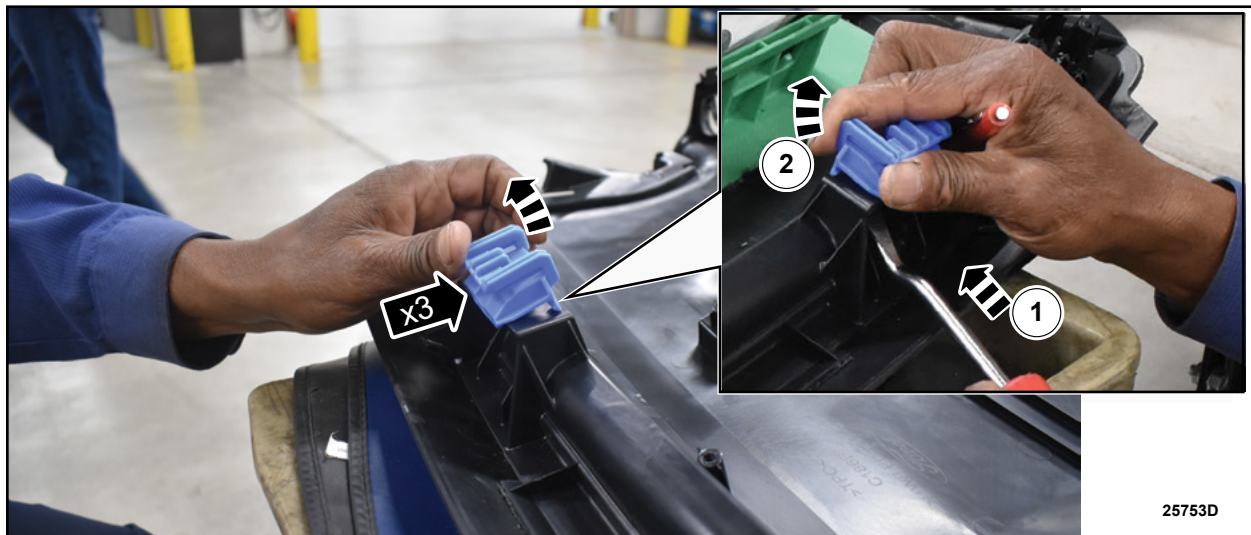

FIGURE 3
5. Transfer the three (3) blue instrument panel to cowl clips from the original instrument panel upper section to the *new* instrument panel upper section. Using a trim tool, disengage the retaining arms of the clip and rotate to remove as shown in Figure 3. Reverse the removal procedure when installing them onto the *new* instrument panel upper section.